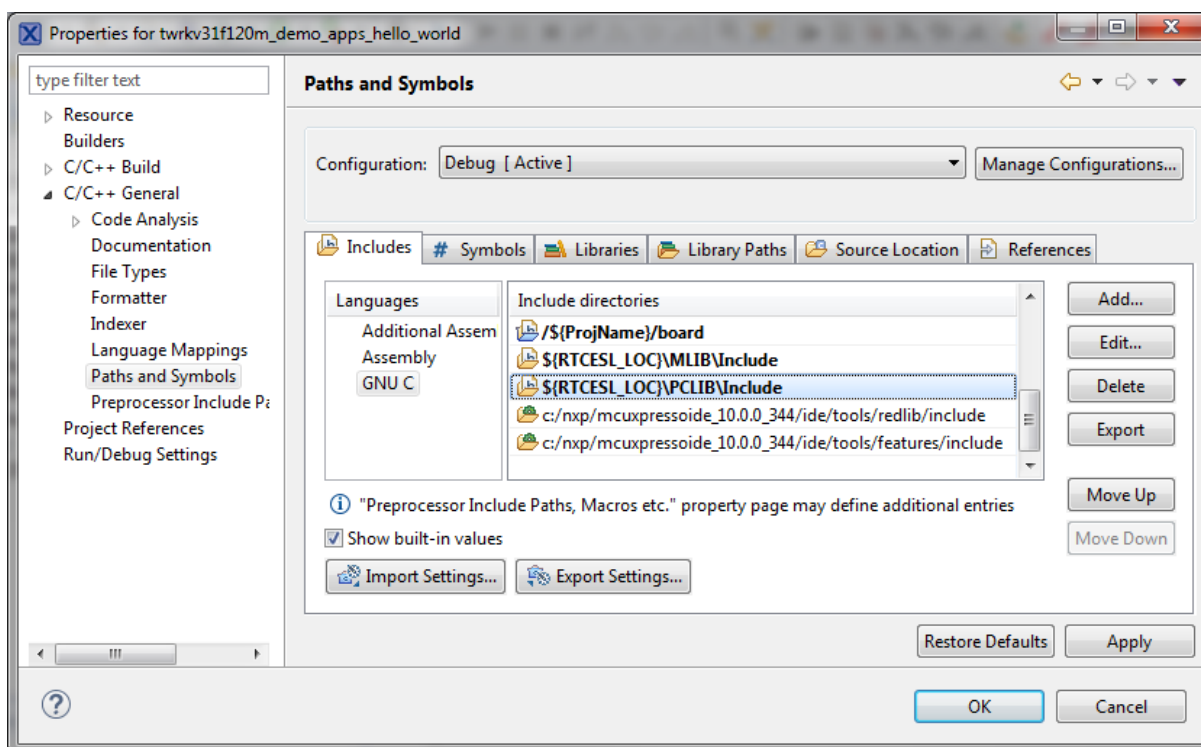

Figure 1-13. Compiler setting
15. In the right-hand dialog, select the Includes tab, and click GNU C in the Languages list. See Figure 1-13.
20. Click OK, and you will see the added in the list. See Figure 1-13. Click OK.